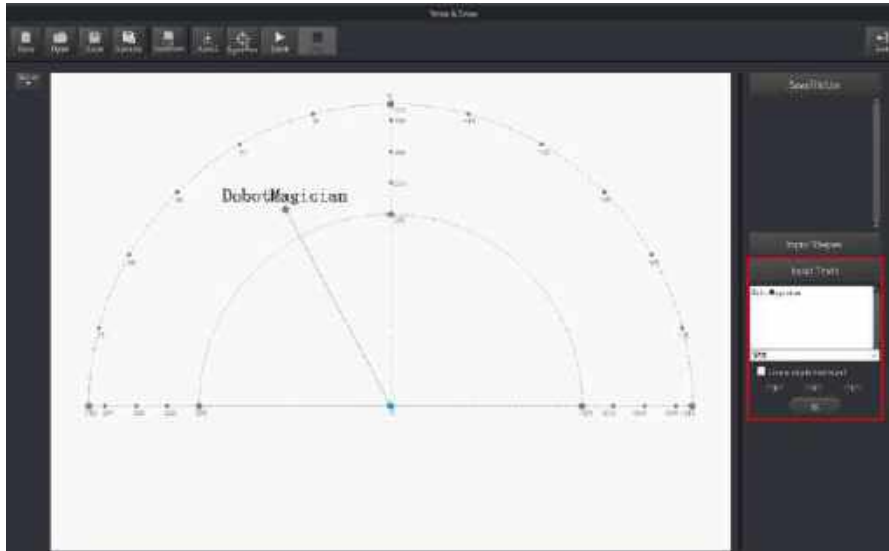

Figure 5.42 Input text
- Click **Input Texts** on the **Write & Draw** page to input texts, and set its style, and then click **OK** to display the text on the annular area, as shown in Figure 5.42.